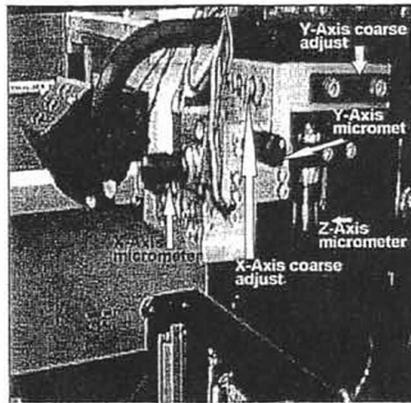

Figure 3: Optics Assembly
- Illuminator (fig. 3)
- Z-axis micrometer (on the nose). (fig. 3)
- XY axis (on the nose) . (fig. 3)
- XY axis micrometer adjust . (fig. 3)
2. On the Signal conditioning board (333450) - attach scope x-probe to TP6 (ch.1) and scope y- probe to TP5 (ch. 2).Set the scope to x-y mode operation (on the time base knob). With the machine turned on and the optics in focus, adjust the position of the nose by loosening the set-screw on the z-axis micrometer (fig.3) and turning it until the trace approximates a vertical line on the scope screen.